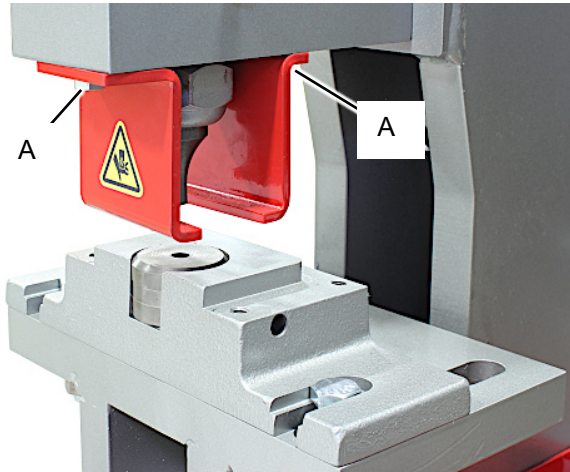

Figure 4
Referring to Figures 4 - 7:
3. Using a 1/2" wrench, loosen the hex head screws (Fig. 4, A) that secure the strippers to the punch block.
15. Install the strippers onto the punch block and tighten in place. (Fig. 4, A)